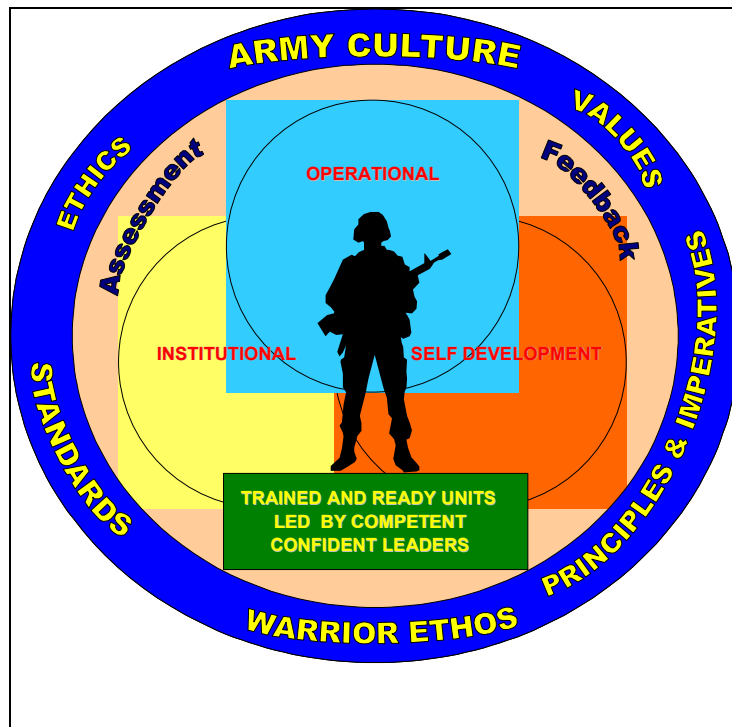

Figure 1-3. Army Training and Leader Development Model
(1) The Army Training and Leader Development Model (Figure 1-3) centers on developing trained and ready units led by competent and confident leaders. The model depicts an important dynamic that creates a lifelong learning process. The three core domains that shape the critical learning experiences throughout a soldiers and leaders time span are the operational, institutional, and self-development domains. Together, these domains interact using feedback and assessment from various sources and methods to maximize warfighting readiness. Each domain has specific, measurable actions that must occur to develop our leaders.